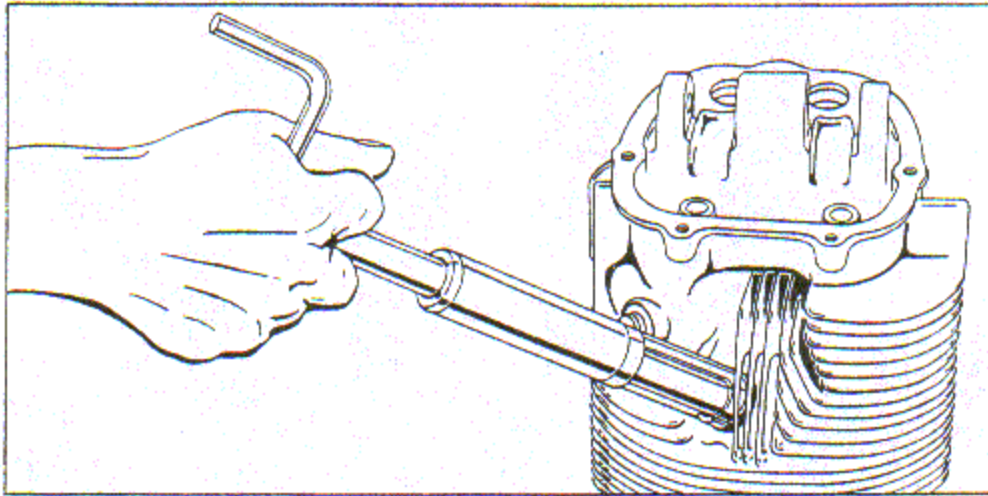

Figure 5-5. Installing Spark Plug Helicoil
d. Use the 18 mm. Helicoil installing tool to install the replacement Helicoil. (See figure 5-5.) Place the Helicoil over the slotted driving end of the rotating stem in the cut out tool body. The toothed end of the Helicoil goes toward the turning handle so that it will enter the hole last. The stem driving slot will engage the bend driving end of the Helicoil. The Helicoil is notched near the bent end to permit easy breaking of the end after installation. Coat the Helicoil surface with anti-seize compound, Specification MIL-T-5544. Turn the handle to wind the Helicoil into the threaded